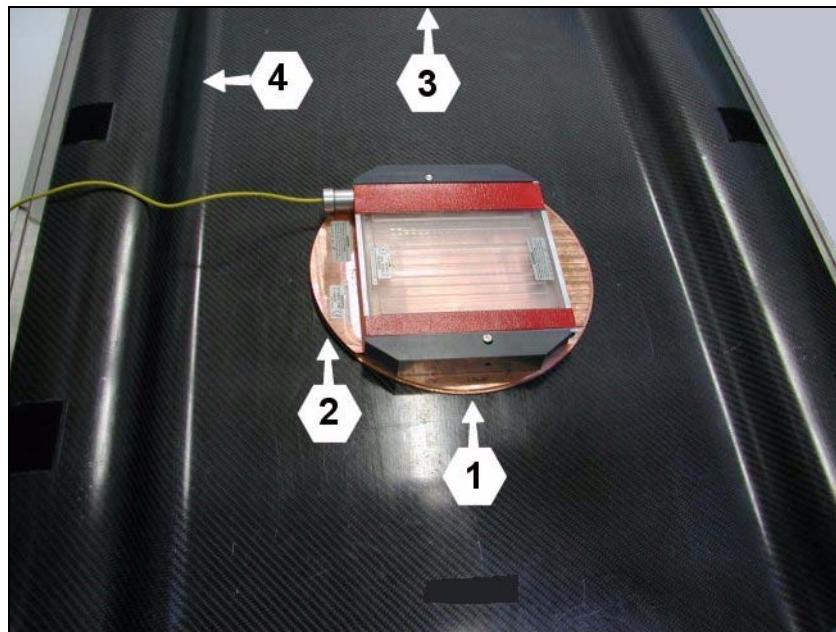

Fig. 2
- Place the dynamic test with heart contour blade on the table top (Fig. 2).